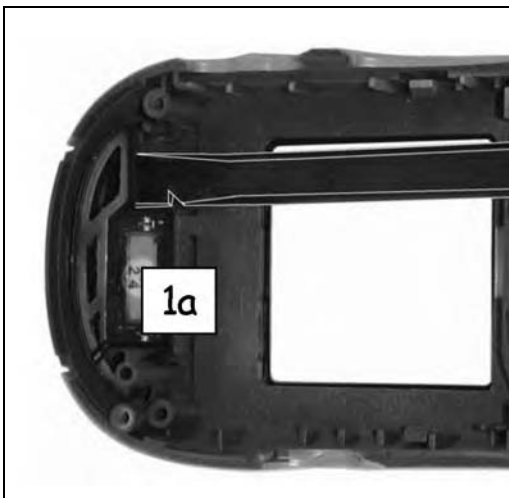

Figure 7-9.
1. Wedge flat tip of black stick under seal on PTT side. See Figure 7-9.